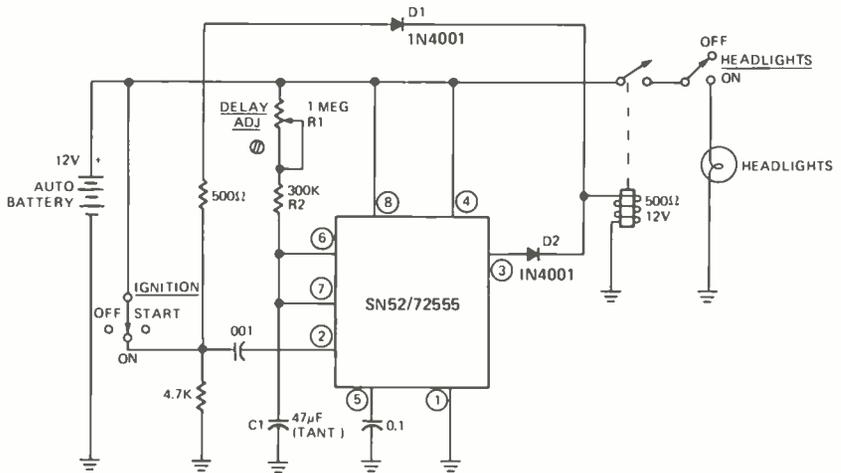

FIG. 8—AUTOMATIC HEADLIGHT turn-off circuit.
**Automatic headlight turn-off**—anyone who has stumbled around in a dark garage after leaving his car for the night will appreciate this automatic headlight shut-off switch (Fig. 8.) that was described in a Texas Instruments application note. It is to be installed in the car